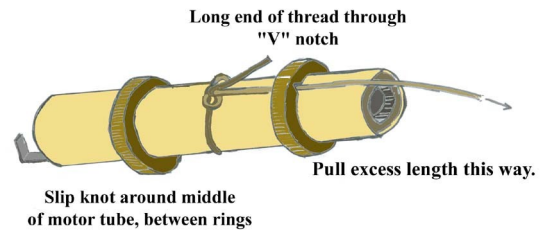

Figure 7
- **Step 8** As shown in Fig. 7, tie a slip knot loop around the middle of the engine mount using the Kevlar thread, and pull this loop tight. Push the free end of the Kevlar through the “V” notch in the upper ring, and pull the excess toward the front, sliding the loop up against the rear of the ring as you go. Secure this loop with a layer of thinned glue, and let dry another 20 minutes.